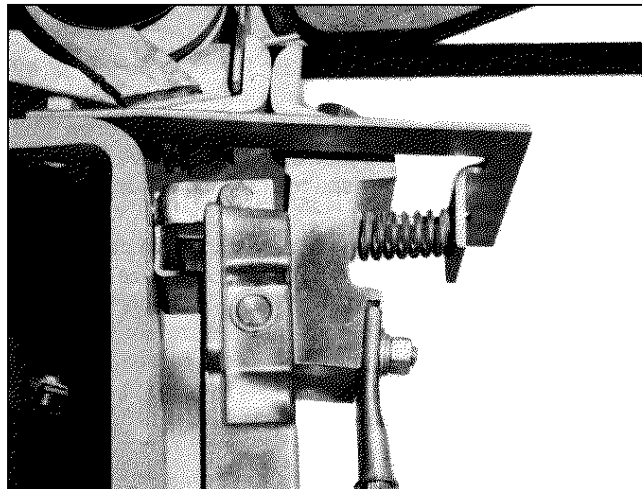

Figure 6
5. Slide out the contact arm pin (24) after removing the hex head nut, lockwasher, and set screw (26).
6. Remove the contact arm assembly (22).
7. Remove the magnet frame (38) from the contactor by removing hex head nuts (41) and lockwashers (8).
8. Remove the silicon bronze hex head cap screw (32) on the front of the magnet core and remove the lockwasher (33), core cap spacer (34), core cap (35) and coil (36).
9. Install the new coil using the core cap, core cap spacer and lockwasher and tighten the silicon bronze hex head screw. Note that the steel core cap, which is thicker than the non-magnetic phospher bronze spacer, must be installed against the coil. (See Exploded View). Check that the spring washer (37) is so positioned that the outside edge is against the coil (36) and not against the magnet frame.
14. Replace the auxiliary arm spring retainer and spring using lockwashers and hex head screws. Check that the auxiliary arm spring is properly seated between the auxiliary arm spring retainer and the auxiliary arm (Fig. 6).
2. Remove the auxiliary arm spring retainer (16) by removing hex head screws and lockwashers.
3. Remove the auxiliary arm spring (15) from the auxiliary arm.
5. Replace the auxiliary arm spring retainer using hex head screws and lockwashers. Check that the auxiliary arm spring is properly seated between the auxiliary arm spring retainer and the auxiliary arm (Fig. 6).